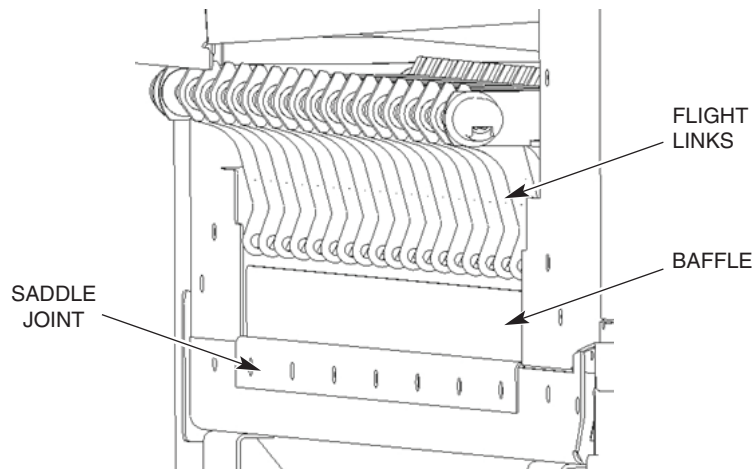

Fig. 12
3. If machine is equipped with the standard type CC conveyor assembly, install baffles along with the saddles using same mounting hardware. Ensure baffles are adjusted to the lowest position to ensure that the baffle does not interfere with the flight links (Fig. 12).